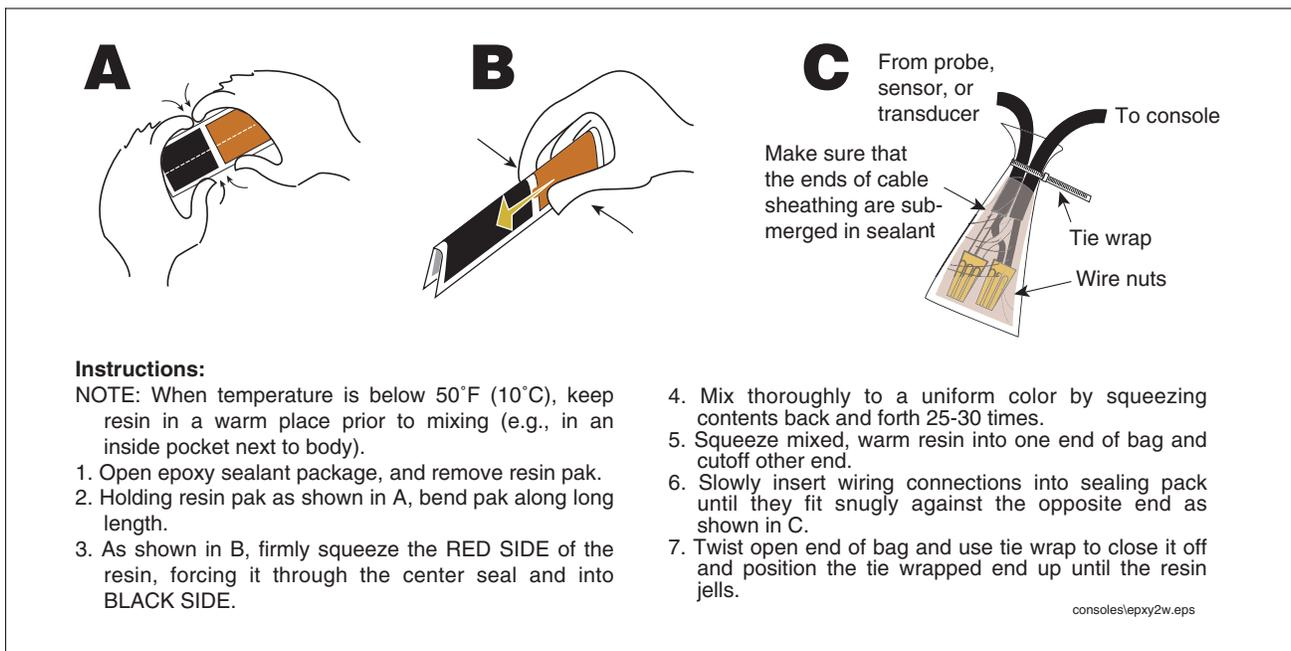

Figure 18-5. Epoxy sealing field wiring
1. Seal wire nuts with epoxy sealant following the instructions in Figure 18-5.